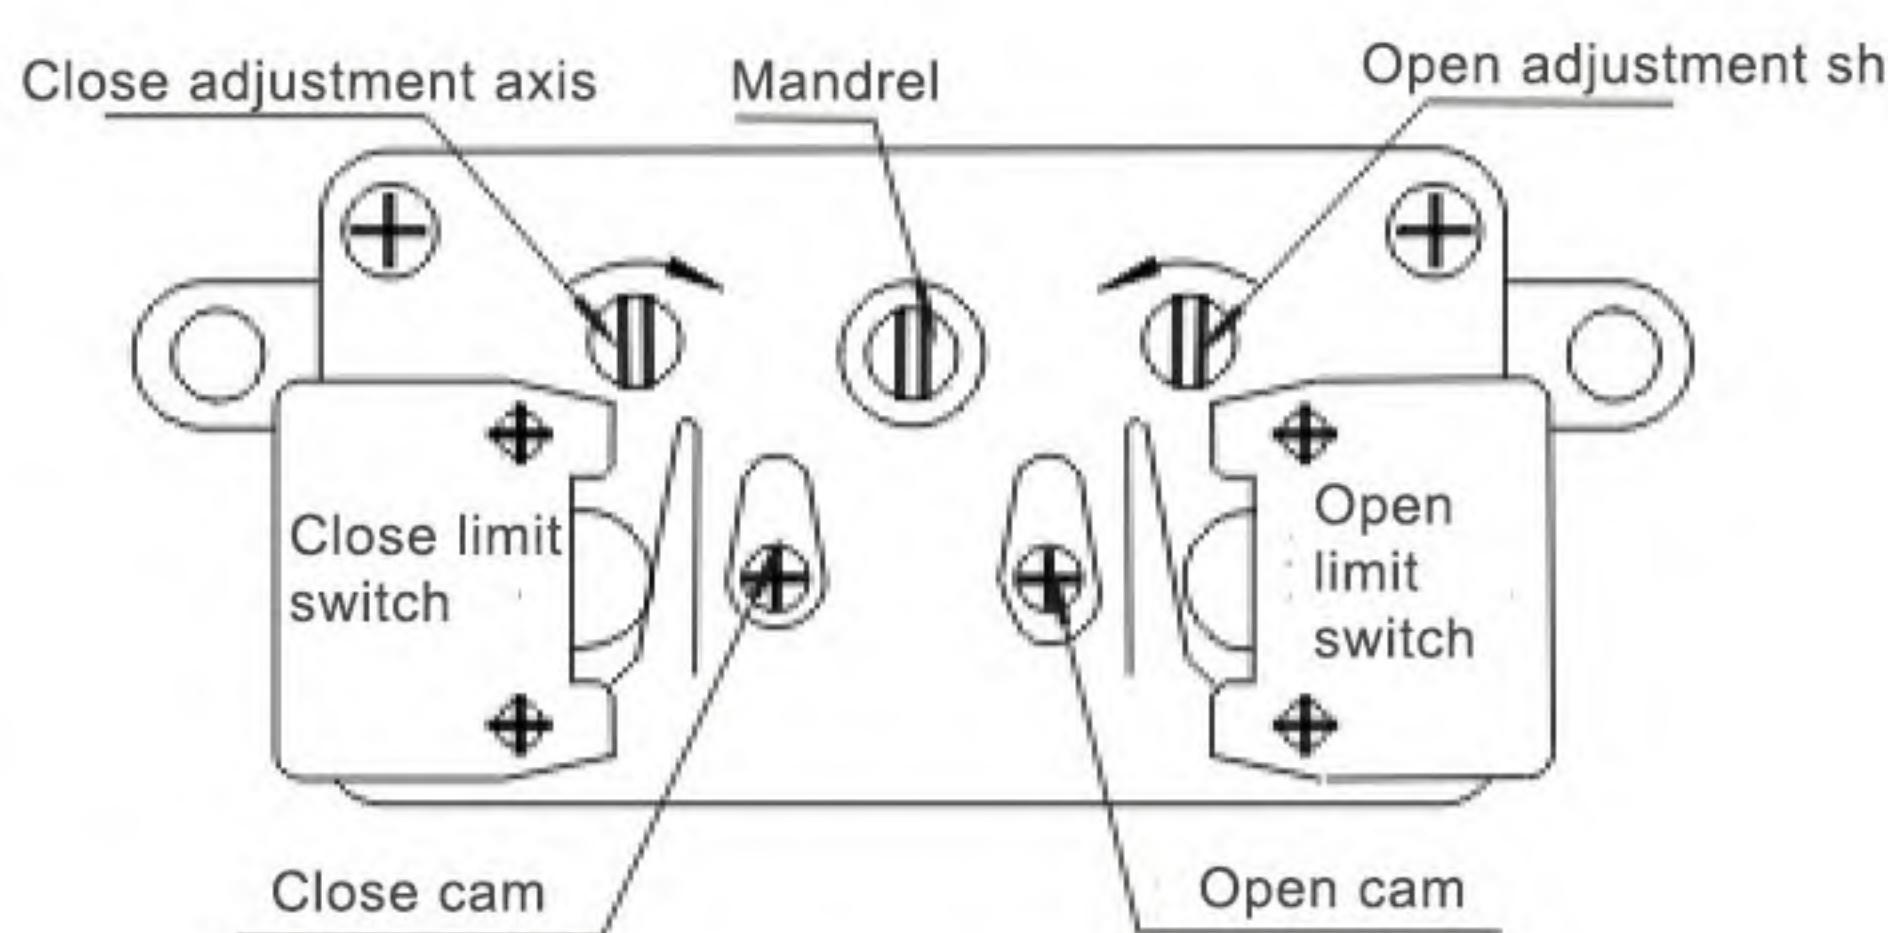

Figure 2.2 Stroke Control Mechanism
- Stroke control mechanism (Figure 2.2): It is composed of carry gear set, ejector rod, cam and micro switch. • Counter for short. The working principle is that an active pinion (Z=8) in the reduction box drives the counter to work. If the counter has been adjusted according to the valve opening or closing position, when the counter rotates with the output shaft to the pre-adjusted position (number of turns), the cam will be rotated 90°, pressing the micro switch to act, cut off the power supply, and the motor Stop, realize the control of the stroke (number of turns) of the electric device. In order to control a valve with more turns, the cam can be adjusted to 180°. Or 270° and then press the micro switch to move.